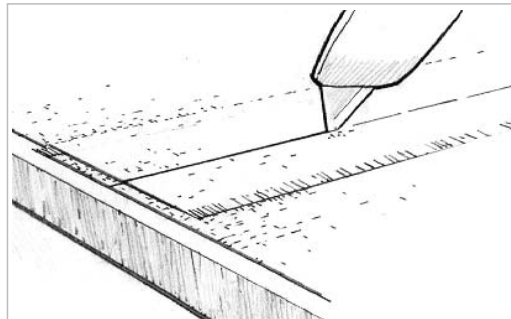

Figure 9-20 Trim overlapping fabric using a metal straightedge and a sharp utility knife, for a flush butt joint.
- a) Place a metal straightedge on top of and midway between the two overlapped edges. b) Cut through both layers of cloth with a sharp utility knife (*Figure 9-20*).